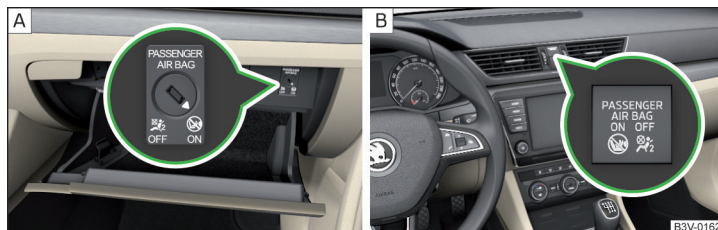

Fig. 10 Key-operated switch for the front passenger airbag / warning light for front passenger airbag
The front passenger airbag can be switched off with the key-operated switch » Fig. 10 on page 20 - [A].
Key switch positions » Fig. 10 - [A]
- OFF** The front passenger airbag is deactivated - after the ignition is switched on, the warning light **OFF** 🚨; » Fig. 10 illuminates - [B]